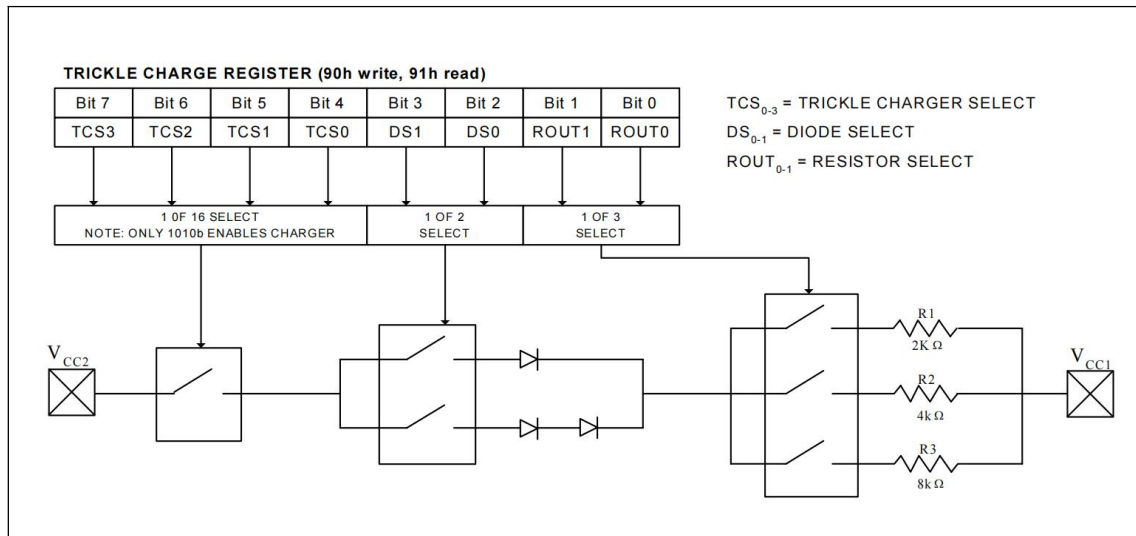

Figure 6. Programmable Trickle Charger
This register controls the trickle-charge characteristics of the XLDS1302. The simplified schematic of Figure 6 shows the basic components of the trickle charger. The trickle-charge select (TCS) bits (bits 4 to 7) control the selection of the trickle charger. To prevent accidental enabling, only a pattern of 1010 enables the trickle charger. All other patterns will disable the trickle charger. The XLDS1302 powers up with the trickle charger disabled. The diode select (DS) bits (bits 2 and 3) select whether one diode or two diodes are connected between V_{CC2} and V_{CC1} . If DS is 01, one diode is selected or if DS is 10, two diodes are selected. If DS is 00 or 11, the trickle charger is disabled independently of TCS. The RS bits (bits 0 and 1) select the resistor that is connected between V_{CC2} and V_{CC1} . The resistor selected by the resistor select (RS) bits is as follows: